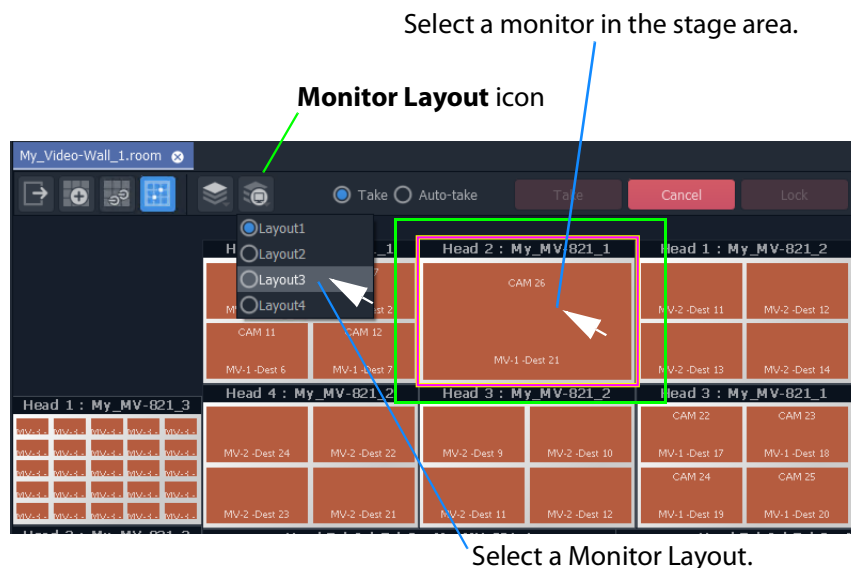

Fig. 14-90: Select Alternate Monitor Layout
- 1 Select a monitor in the **X/Y Routing** screen stage area. (See Figure 14-90.)
- 2 Click on the **Monitor Layout** icon in the **Room Editor** tool bar and select the required **Monitor Layout** to show. (See Figure 14-90.)